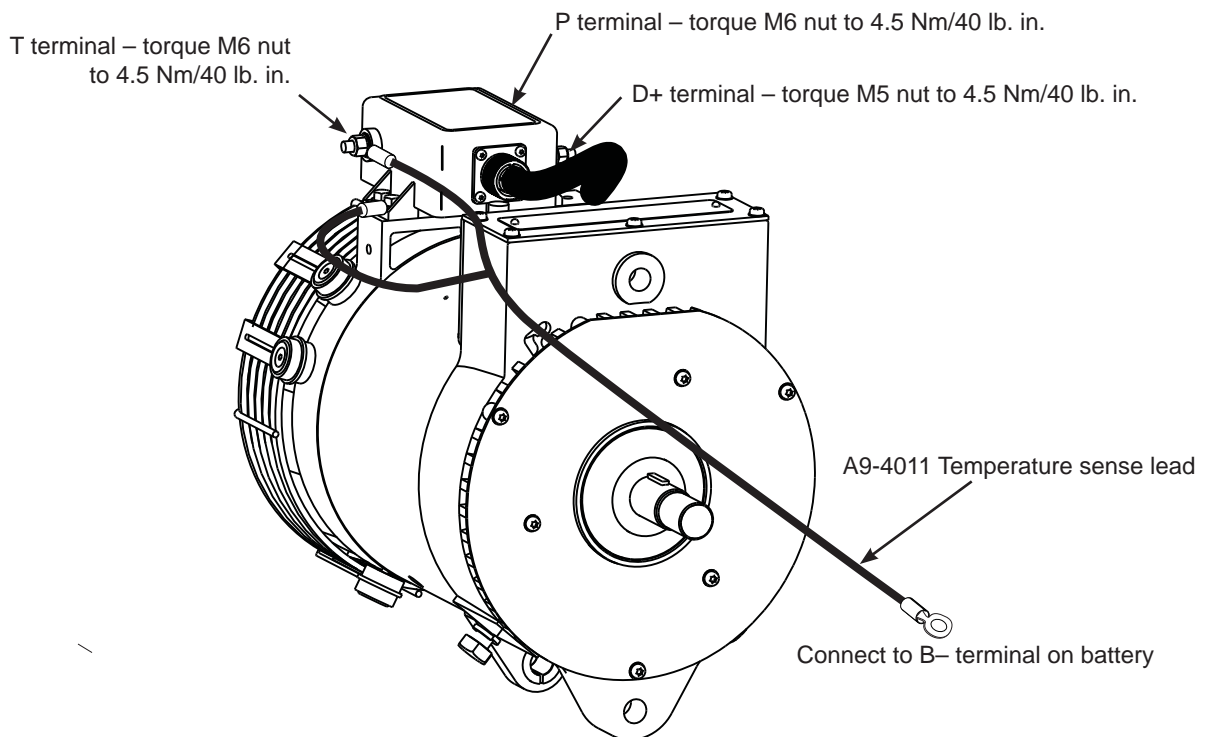

Figure 2 – A2-338 Regulator on C653 Alternator with Temperature Sense Lead
3. If A9-4011 temperature sense lead is used, see Figure 2:
- b) Connect single sense lead ring terminal to B- terminal on battery as shown in Figure 2. Tighten hardware securely.
4. Complete remaining connections to regulator, if required, as shown in Figure 2.